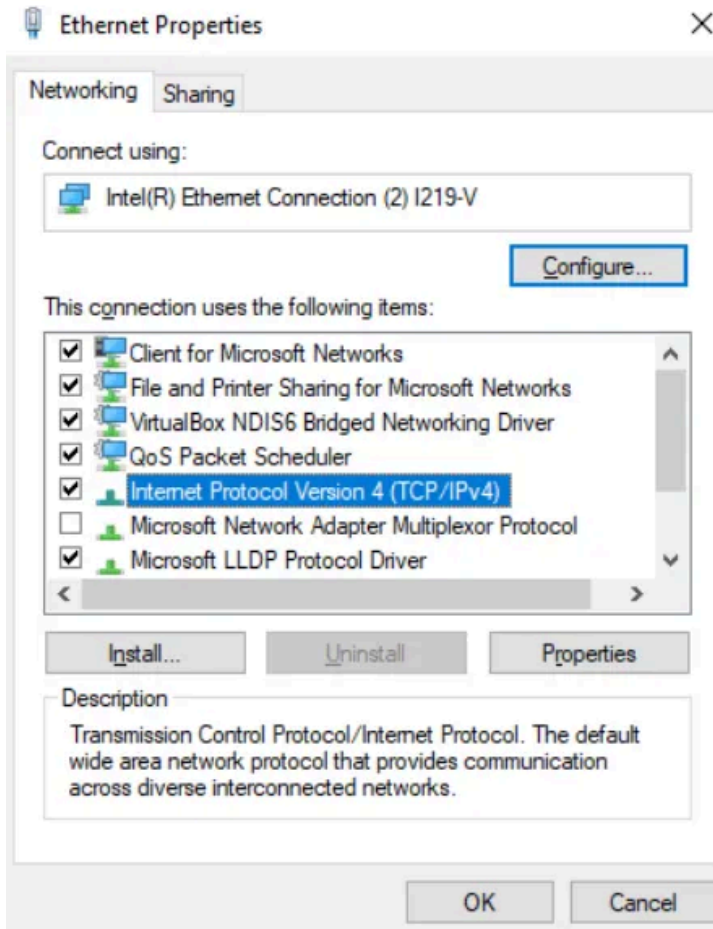

Fig. 1 – Connection properties window in Windows
2. Right-click the connection icon and select **Properties**. The Properties window opens (Fig. 1).